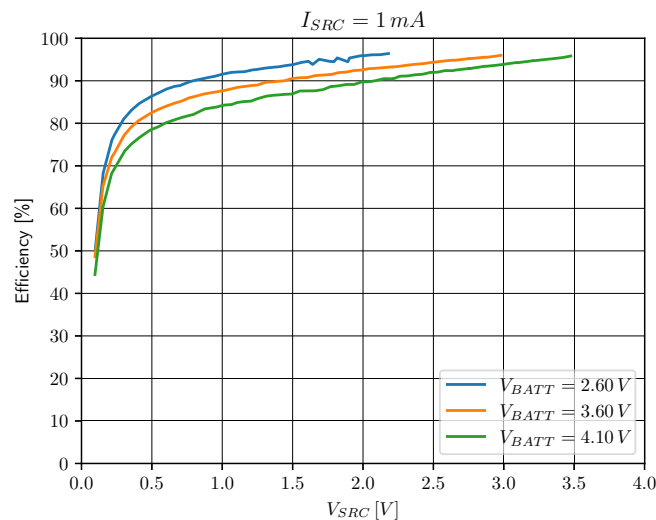

Figure 14: Boost efficiency for $I_{SRC} = 1$ mA, $L_{BOOST} = 10$ μ H (Coilcraft LPS4018-103)
- The measurement must last long enough for the average values read on both SMUs to be stable. Figure 14 has been obtained by averaging over 100 measurements configured with a 200 ms integration time.